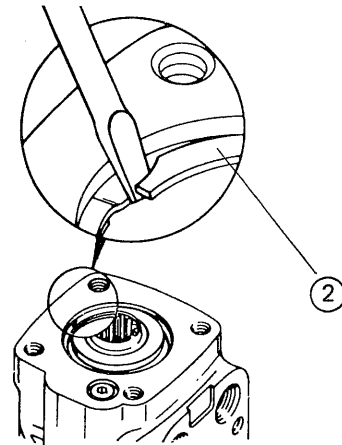

Fig. 130
- (11) Dismount housing from vise and place on a clean cloth being careful not to damage machined surfaces.
Lever up end of retaining ring (2) using a small screw driver and remove the retaining ring. (Fig. 130)